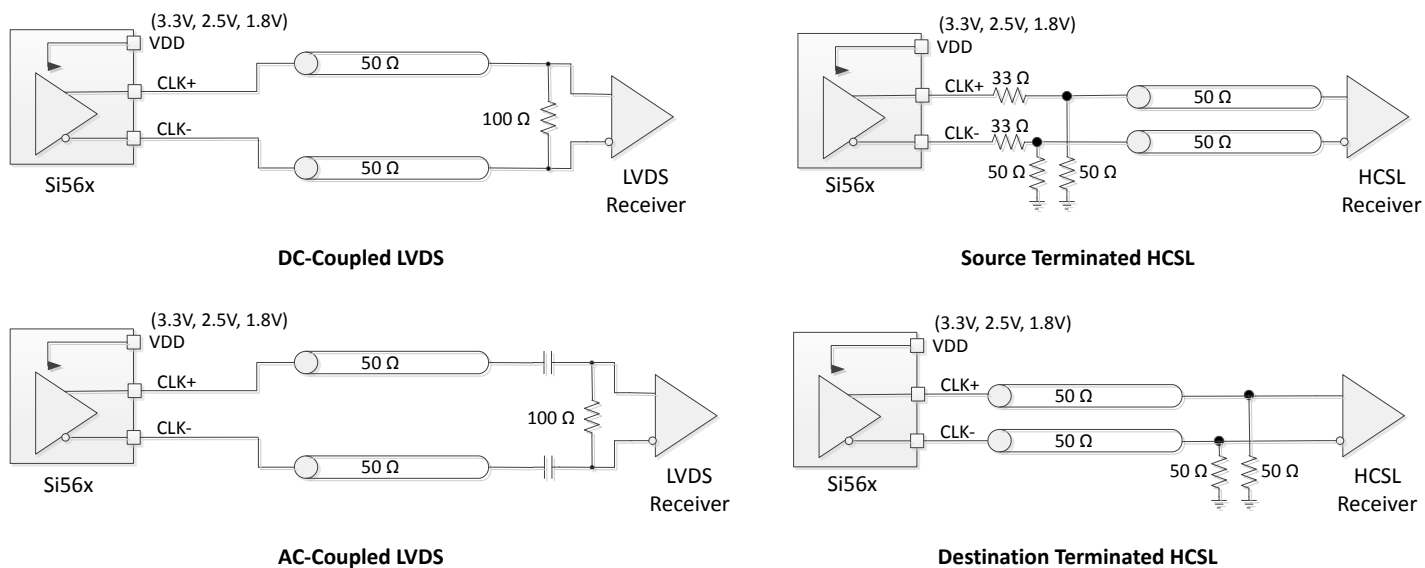

Figure 4.2. LVDS and HCSL Output Terminations
4.  $R_{term} = 100 \Omega$  (differential) (see Figure 4.2).
5.  $R_{term} = 50 \Omega$  to GND (see Figure 4.2).